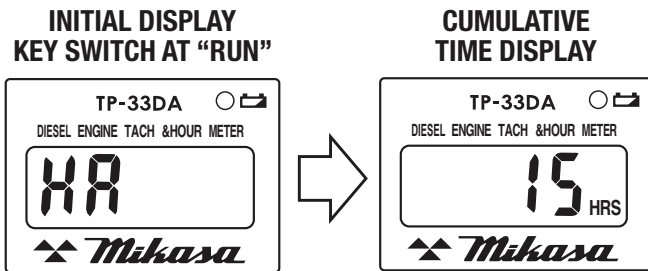

Figure 39. Tachometer/Hour Meter (Cumulative Time)
- After “HA” is initially displayed on the tachometer/hour meter, the meter will change to display **cumulative time** (Figure 39).